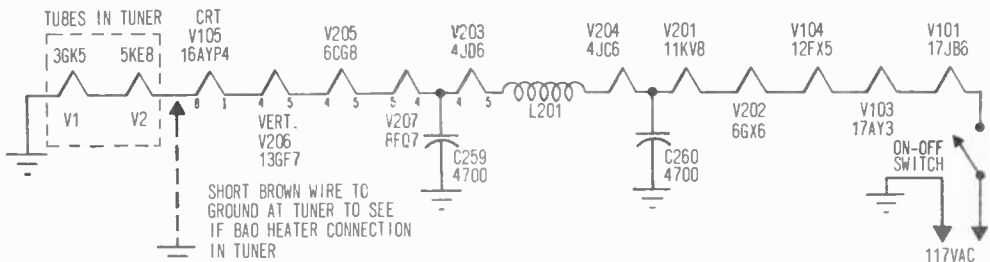

Fig. 10. Typical series-string hookup can be quickly traced with AC voltmeter to locate break in circuit.
Fig. 10. To determine if Burst Amp and Phase Detector are working properly, ground the Burst Amp grid as shown, then measure the voltages (with a VTVM) on the transformer side of the diode. The actual voltages will vary from set to set, but should be equal and of opposite polarity.
**Slap In The Phase.** One shortcut helps tell whether Phase Detector or Burst Amp is at fault. In Fig. 10 is a simplified schematic of these stages, as used in an RCA color chassis. During operation, the Burst Amp is boosting the received burst signal and applying it to the Phase Detector. Here the signal is split in the transformer leading to a tube with a pair of detector diodes. At the same time, a 3.58 MHz Sample is applied to the other side of the diodes. This circuit com-
In case the problem hasn't been found after checking tube continuity, bring out the AC voltmeter (see Fig. 9). Switch the voltmeter to the 150-VAC scale. Place the voltmeter probes across the *on/off* switch—it could be open. If this checks out OK, put one voltmeter lead to the *on/off* switch and trace the heater wires starting at the grounded side (Fig. 10).